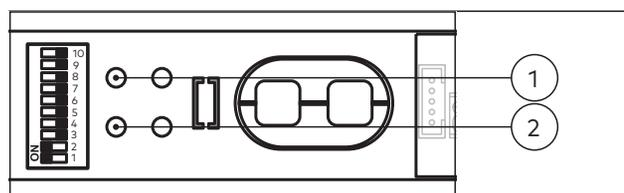

Fig. 48 Start learning cycle
- ▶ LED flashes green (Fig. 48/1).
3. Press the reset button on the drive for more than 3 seconds (Fig. 48/2).